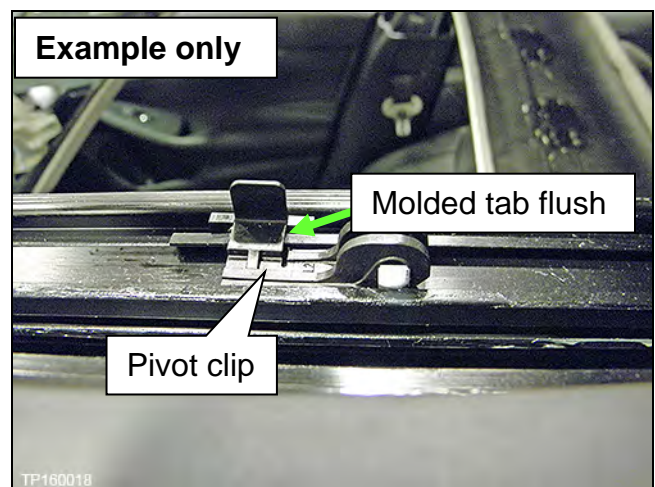

Figure 23
7. Confirm that the molded tabs are completely locked into the moonroof frame, and are flush with the moonroof frame (Figure 23).
- Figure 23 shows the driver side pivot clip with wind deflector arm removed so that the molded tab can be seen.